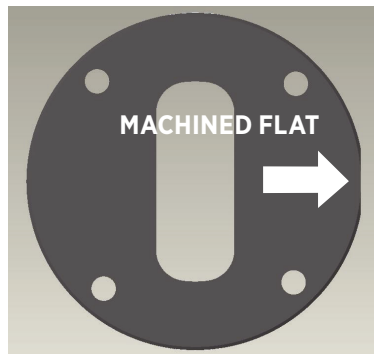
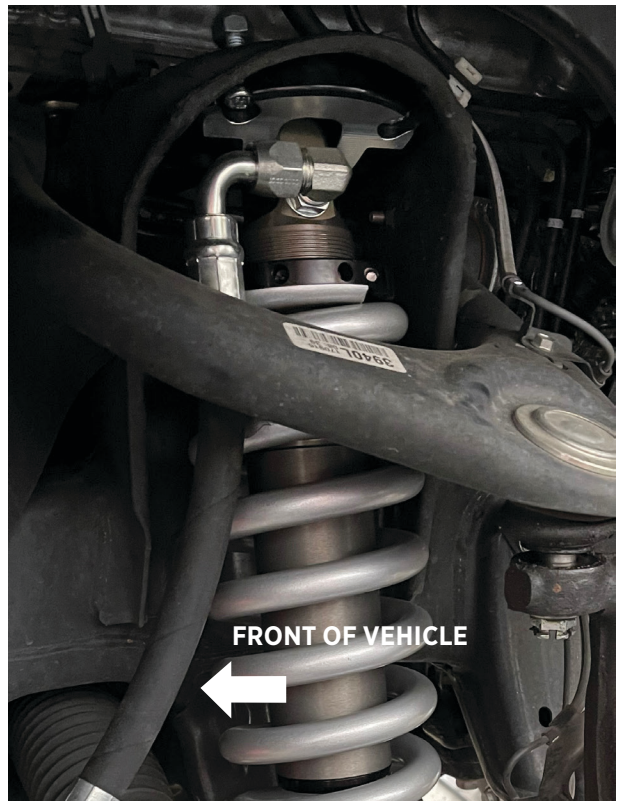

Fig. 7b: Machined flat on top hat.
Fig. 7a: Install FOX shock assembly.
11. Install the new coil-over assembly. With remote reservoir models, make sure that the hoses are facing outward and toward the front of the vehicle (Fig. 7a). Double check the top hat is installed correctly. For the driver-side shock, the machined flat faces the rear of the vehicle. For the passenger-side shock, the machined flat faces the front of the vehicle (Fig. 7b). Connect the top shock hat to the vehicle with the provided Group A nuts and washers. Tighten all four top nuts to 24 ft/lbs.